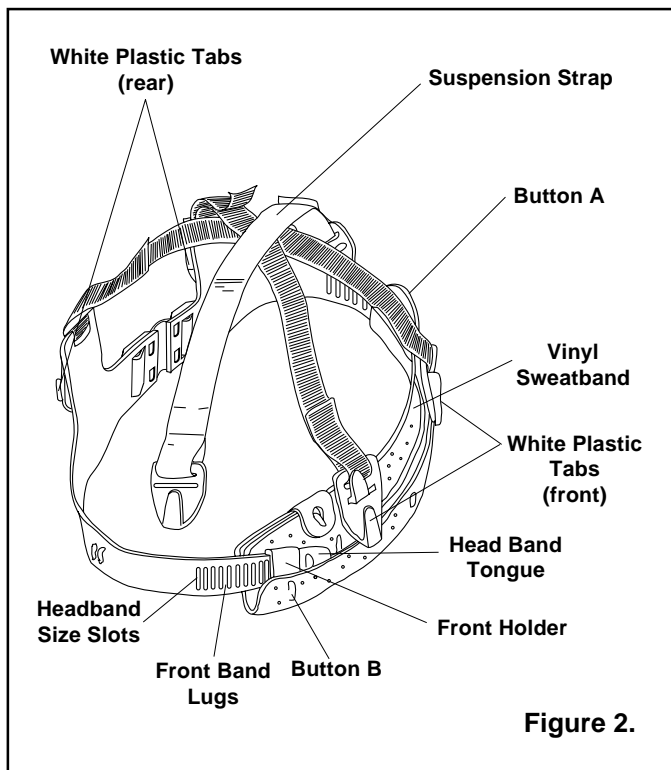

Figure 2.
6.1 Helmet Suspension Adjustment and Replacement, Figure 2
6.1.3 Unfasten the vinyl sweatband from the two lower, outside buttons (A and B in Figure 2).